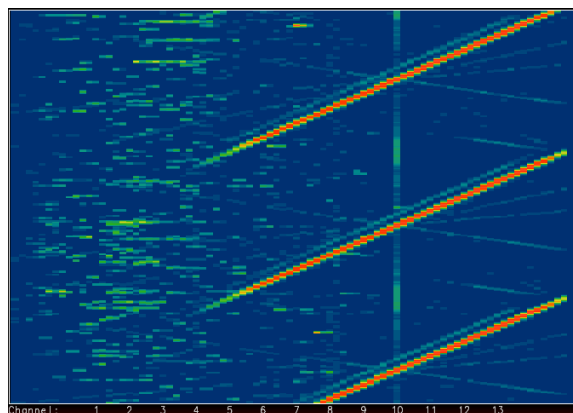

Figure 3: Spectrum Analyzer Output
3. If everything works, the radio's green LED will illuminate to indicate the radio is transmitting, and your node will be generating a sweeping sinusoid at RF. You can observe the waveform on the spectrum analyzer in the lab. It should look something like Figure 3.